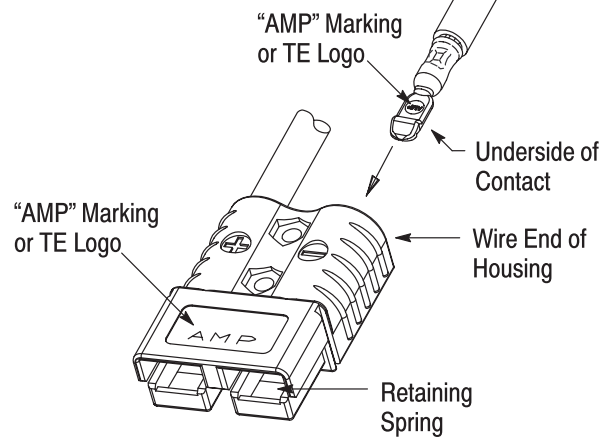

Figure 7
8. Refer to Figure 7, and install each contact into the housing as follows: